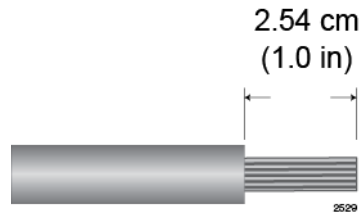

Figure 125. Stripping Solid or Stranded DC Power Wires
1. Prepare adequate lengths of two solid or stranded 8 AWG DC power wires by stripping them as shown in Figure 125.